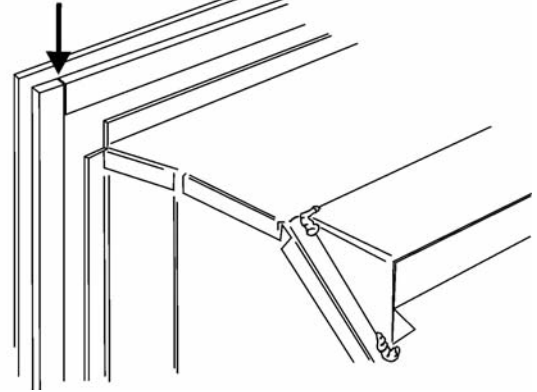

Figure 6. Fitting the foam seal.
4. Three strips of self adhesive foam sealing material are supplied. Remove the protective backing from the seals and fit them to the rear of the convection box top and side flanges as in figure 6 (On TC models fit the foam seal to the rear of the spacer frame). Ensure that there is no gap between the seals where they meet and that there is full contact with the fireplace front.